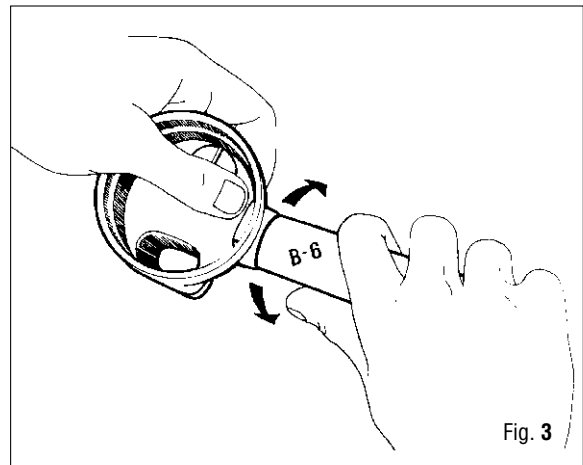

Fig. 3
3. Maintain outward pressure against the poppet housing to prevent it from being displaced. Place O-ring 83 in its seat using Mares special tool (B-6). (See Fig. 3).